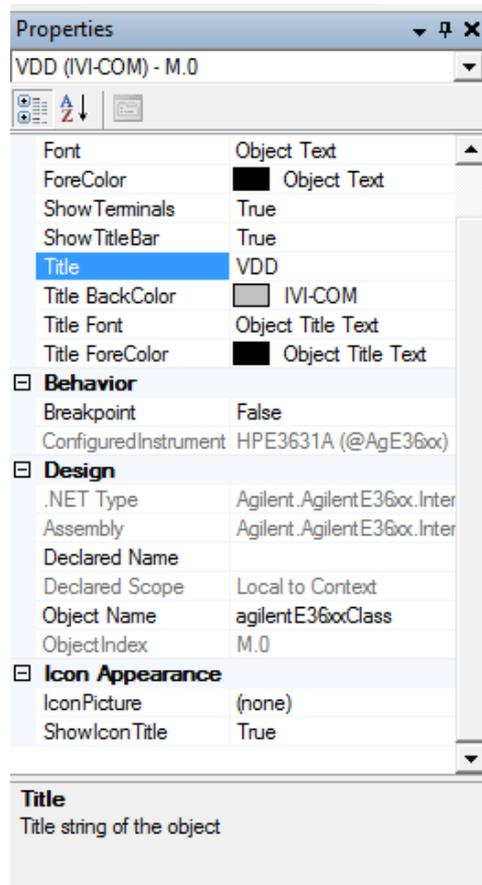

Fig. 13: Changing the title of the IVI driver object
7) Click on the driver and change its title as **“VDD”** from the **Properties** menu at the left side as shown in Fig. 13.